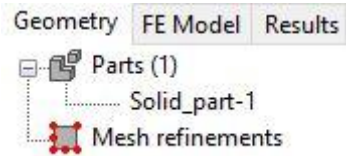

Figure 2: Geometry tab of the model tree
- 1) Geometry – geometry editing and mesh generation (Figure 2).